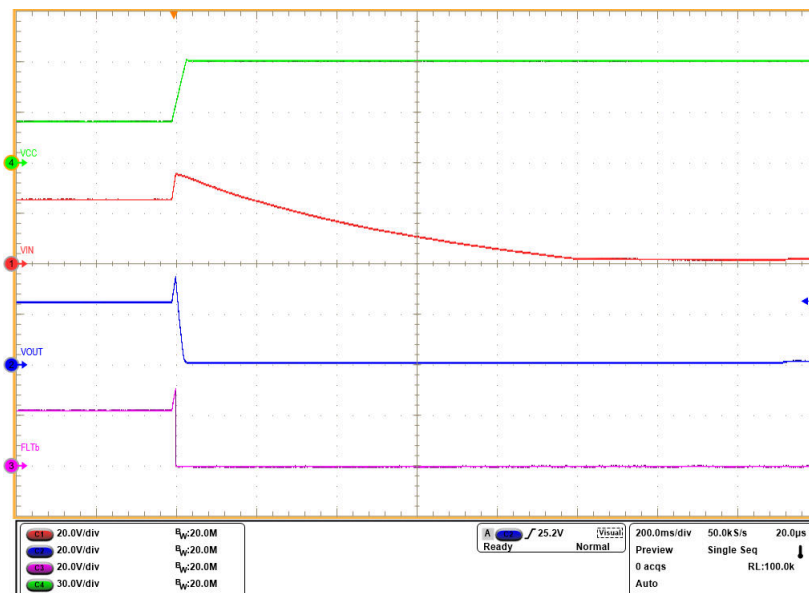

Figure 5-6. Overvoltage Protection Response with External PFET for IN Voltage from 24 V to 60 V
8. Increase the input supply VIN from 24 V to 60 V and observe the response as shown in Figure 5-6.